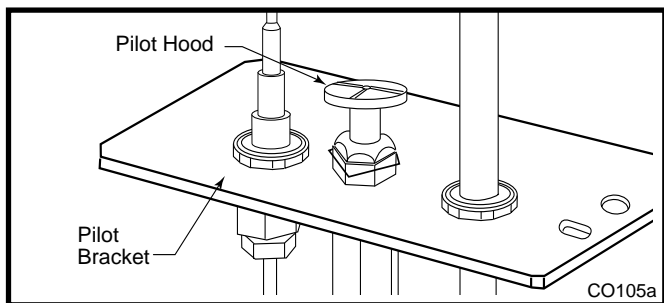

Fig. 41 Remove pilot hood.
- Remove pilot hood by lifting up. (Fig. 41) **NOTE:** It is not necessary to remove the pilot tube for conversion.